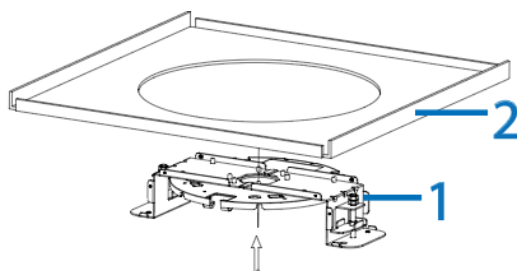

Figure 6
- Insert the recess mount brackets with mount plate (1) (Figure 6) up into the hole in the ceiling tile (2) (Figure 6).